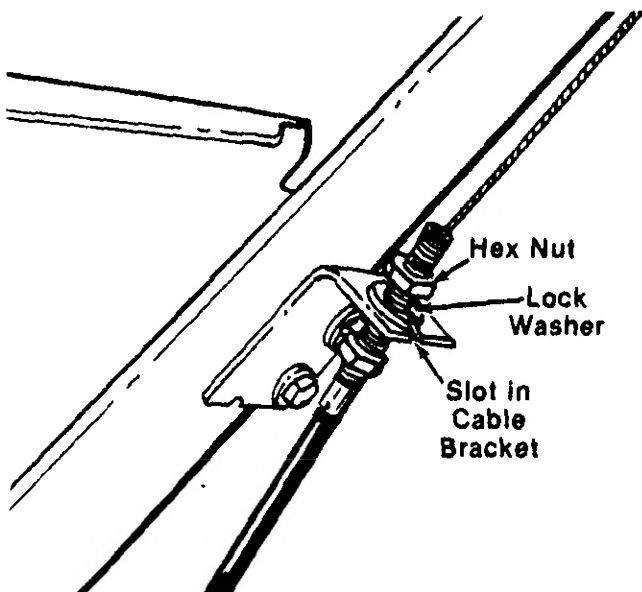
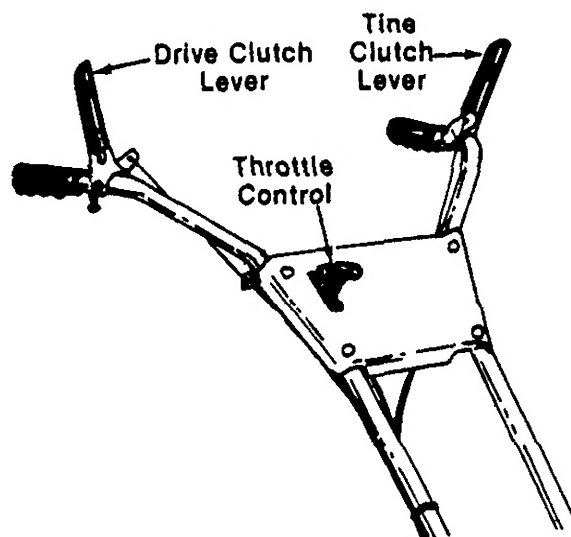

FIGURE 9.
FIGURE 12.
1. Remove one nut and the lock washer from the end of the drive clutch cable (short cable). Slip the cable up through the slot on the cable bracket on the right handle. Rethread hex nut and lock washer on the end of the cable. See figure 9. Do not tighten at this time.
The throttle control lever is located on the right hand side of handle panel and controls the engine speed. See figure 12.
The tine clutch lever is located on the left handle. See figure 12.
The drive clutch lever is located on the right handle. See figure 12.
To adjust, loosen the hex nuts at the cable bracket on the handle. Refer to figure 9. With the clutch lever released as shown in figure 12, adjust the bottom nut so that there is only a slight amount of slack in the control wire. Tighten the upper nut against the bracket.